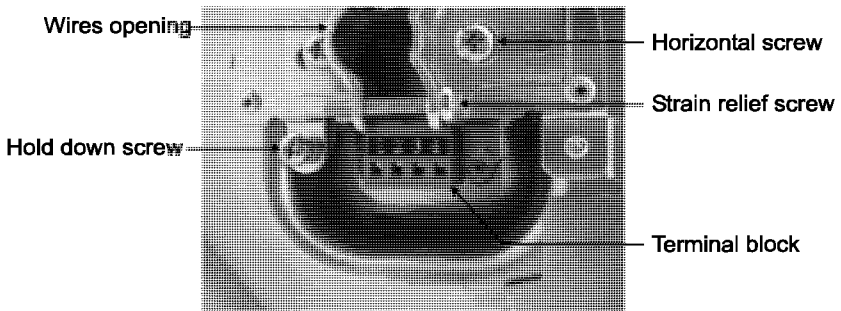

Figure 9: Plugging and Securing the Cables
5. Plug the connector into the socket in the terminal cup of the speaker and tighten the screws (see Figure 9).